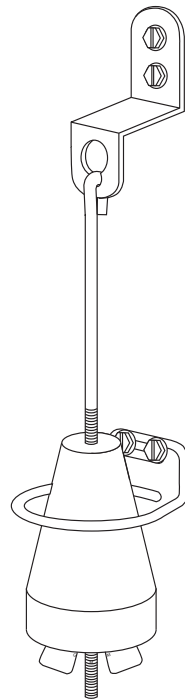

Figure A17. Assembled plumb bob tilt mechanism.
17) Locate the plumb bob weight and nylon wing nut in the loose parts. Locate the plumb bob tilt hanger wire and contact brackets, mounted on the inside, left sidewall of the lower cabinet. Slide the weight onto the straight end of the hanger wire and thread the wing nut onto the shaft underneath it (figure A17). Raising the weight higher up the hanger wire (by tightening the wing nut underneath it) makes the tilt mechanism more sensitive; lowering the weight makes it less sensitive.